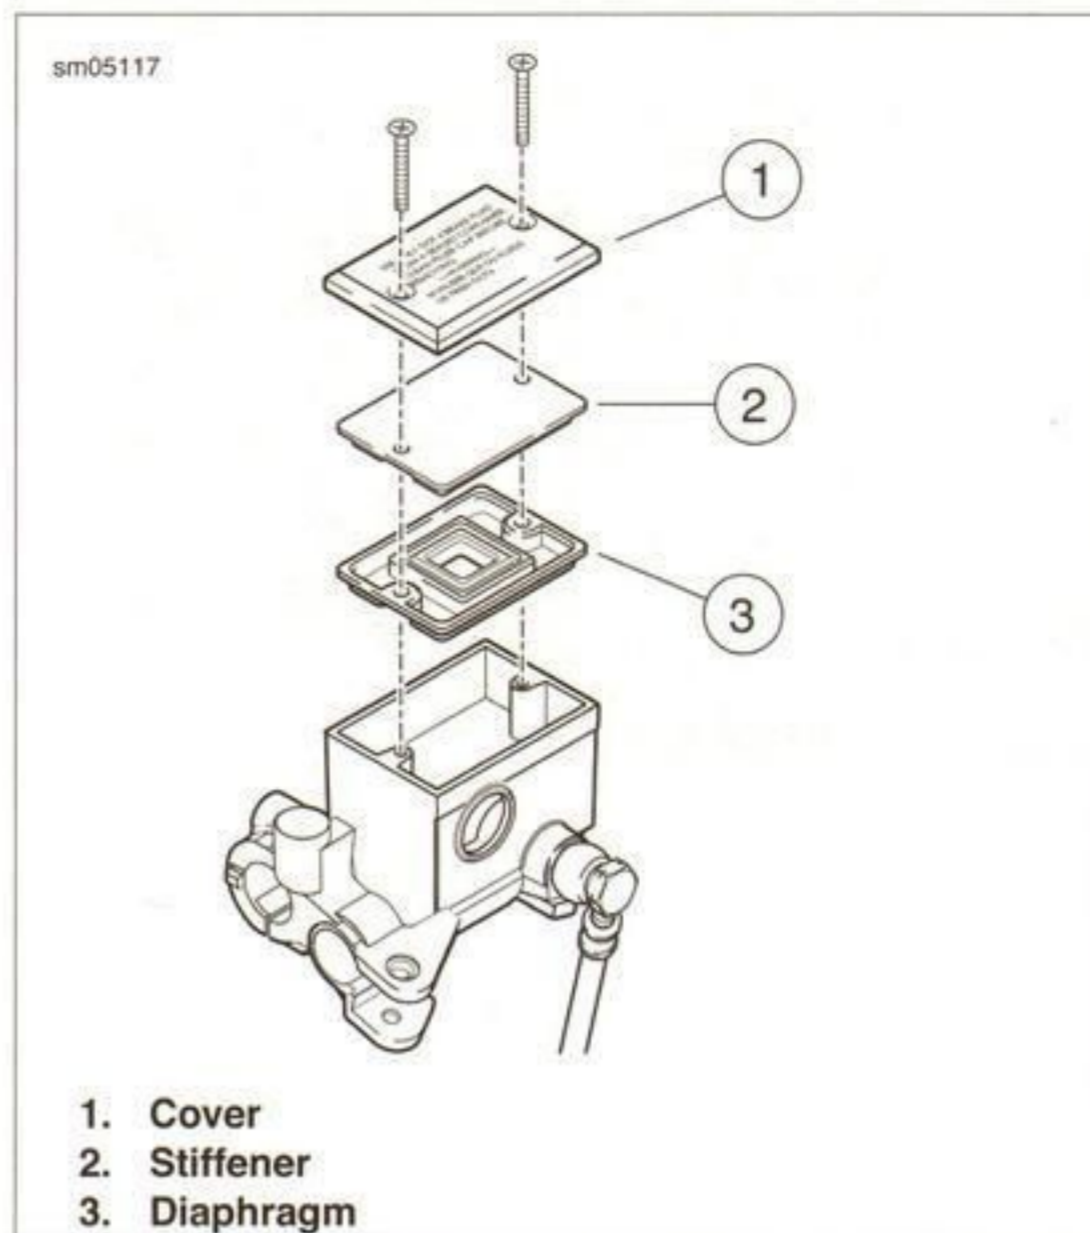

Figure 1-22. Brake Fluid Reservoir
3. See Figure 1-22. Rotate the handlebars for access and remove the two fasteners from the reservoir cover and remove the cover (1), stiffener (2) and diaphragm (3).